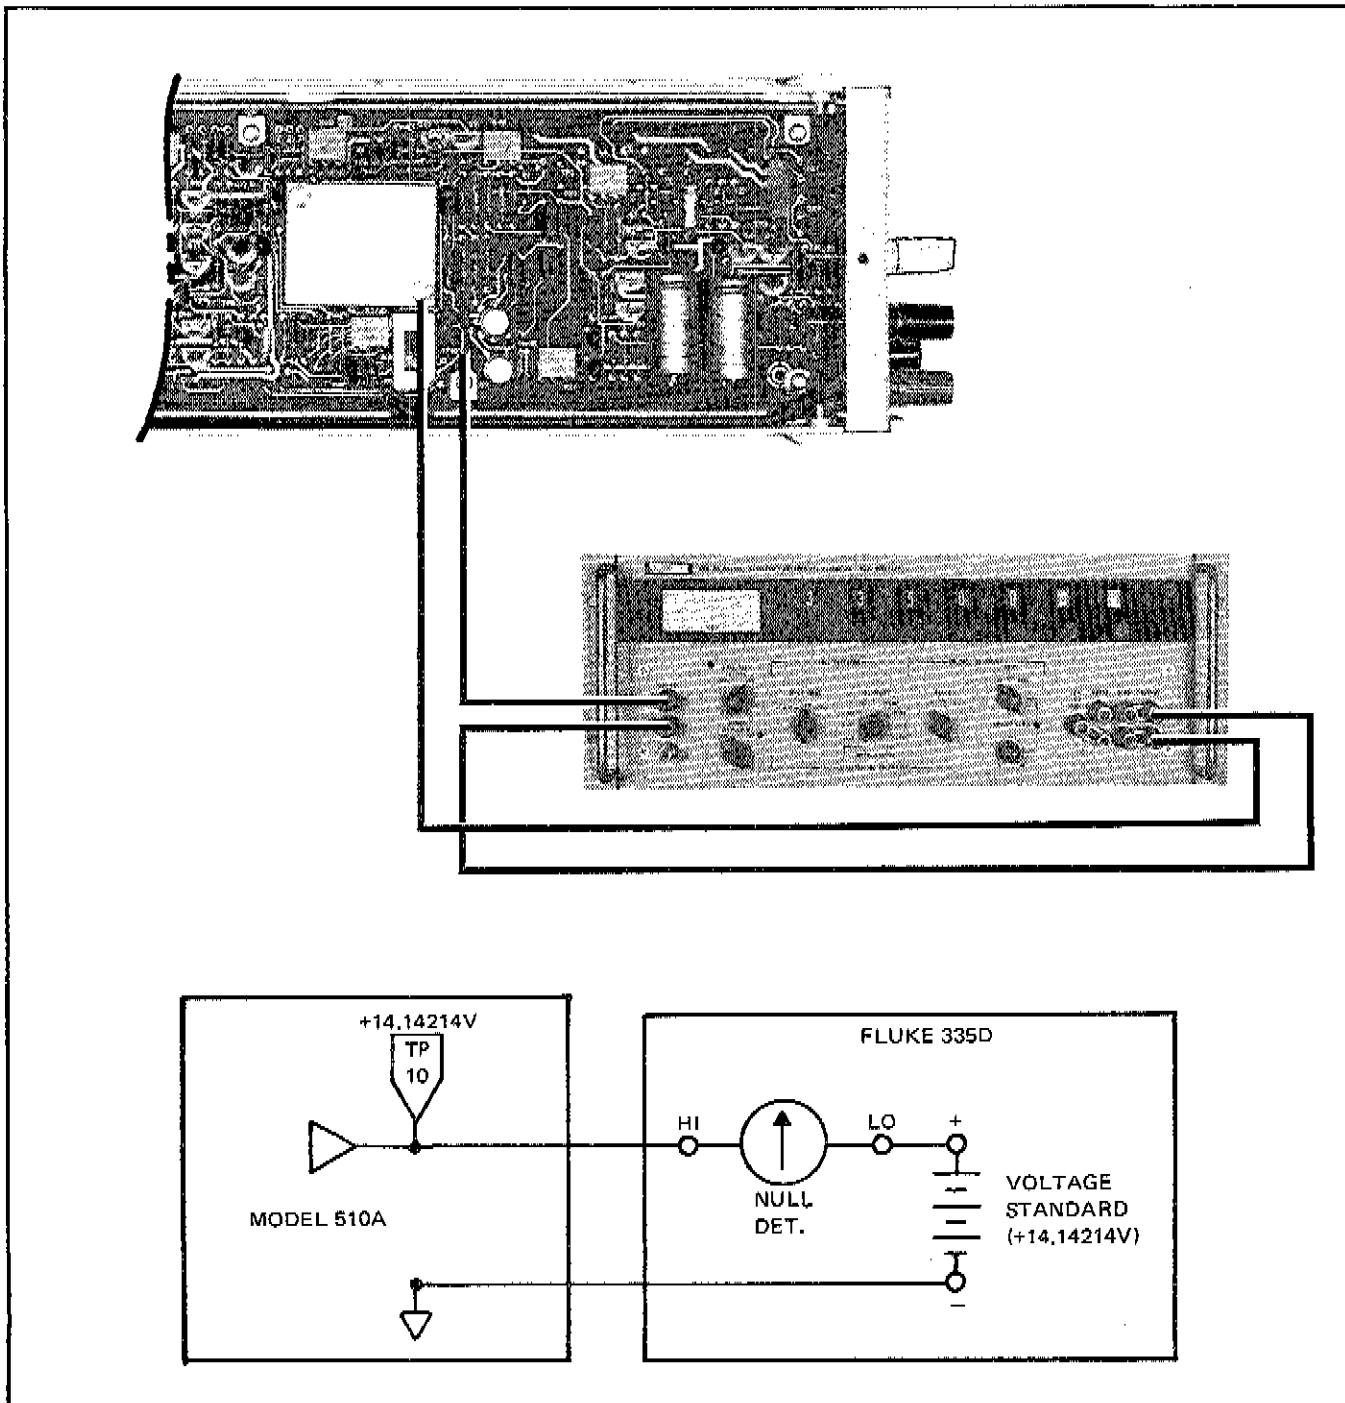

Figure 4-6. DC REFERENCE EQUIPMENT CONNECTIONS
- Make the equipment connections shown in Figure 4-6.
- Turn on the Model 510A and make the equipment connections shown in Figure 4-6.